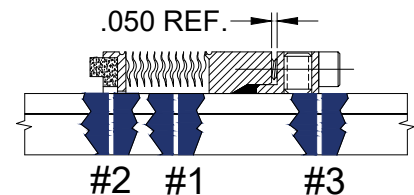

Figure 16: Step 10.
10. Bring the packing and bellows assembly back to the drive hub. Use the socket head cap screws to draw in and compress the packing until the specified 0.050 in. setting gap is achieved (Figure 16).